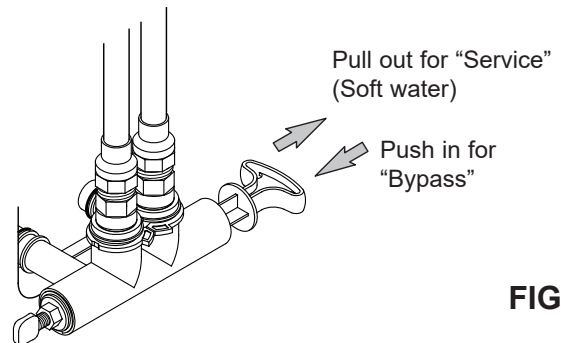
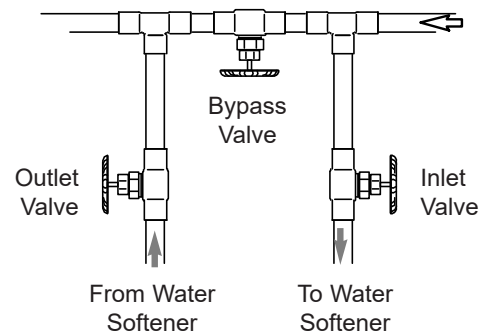

FIG. 7
FIG. 8
Always install either a single bypass valve (provided), as shown in Figure 7, or, if desired, parts for a 3 valve bypass system (not included) can be purchased and assembled, as shown in Figure 8. Bypass valves allow you to turn off water to the softener for maintenance if needed, but still have water in house pipes.
CAUTION: The house cold water pipe (metal only) is often used as a ground for the house electrical system. The 3-valve bypass type of installation, shown in Figure 8, will maintain ground continuity. If you use a plastic bypass valve at the unit, continuity is broken. To restore the ground, do the following:
2. Place the bypass valve (single or 3 valve) into the "bypass" position. See Figures 7 & 8 on Page 8.